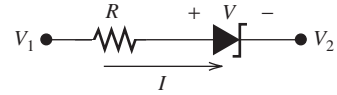
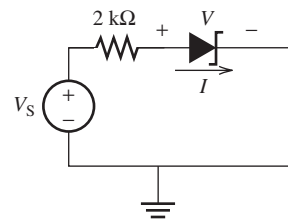

FIGURE 8.25 Circuit with a Zener diode.
FIGURE 8.26 Circuit for Example 8.7.
To explain the operation of a Zener diode, consider the circuit shown in Figure 8.25. Assuming a practical model, Table 8.2 summarizes the operation of the Zener diode. Observe that if the reverse voltage across the diode is more than V_z , the Zener diode will be equivalent to a constant voltage source with the value of $V = -V_z$.
For the circuit shown in Figure 8.26, the Zener diode has $V_z = 3.6$ V. Find I and V when:
- a. Refer to Figure 8.25, $V_S = -1$ V means -3.6 V $< V_1 - V_2 < 0$ V. Therefore, the diode is reverse biased, it is OFF, and the current flowing through it is $I = 0$. Applying KVL to Figure 8.26, the voltage across the diode corresponds to: